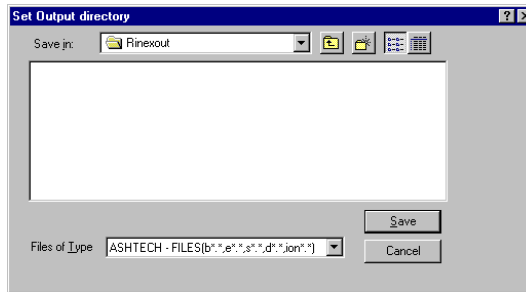

Figure 7.5: Set Output Directory Dialog Box
3. Click **Output dir** to open the **Set Output directory** dialog box (Figure 7.5).